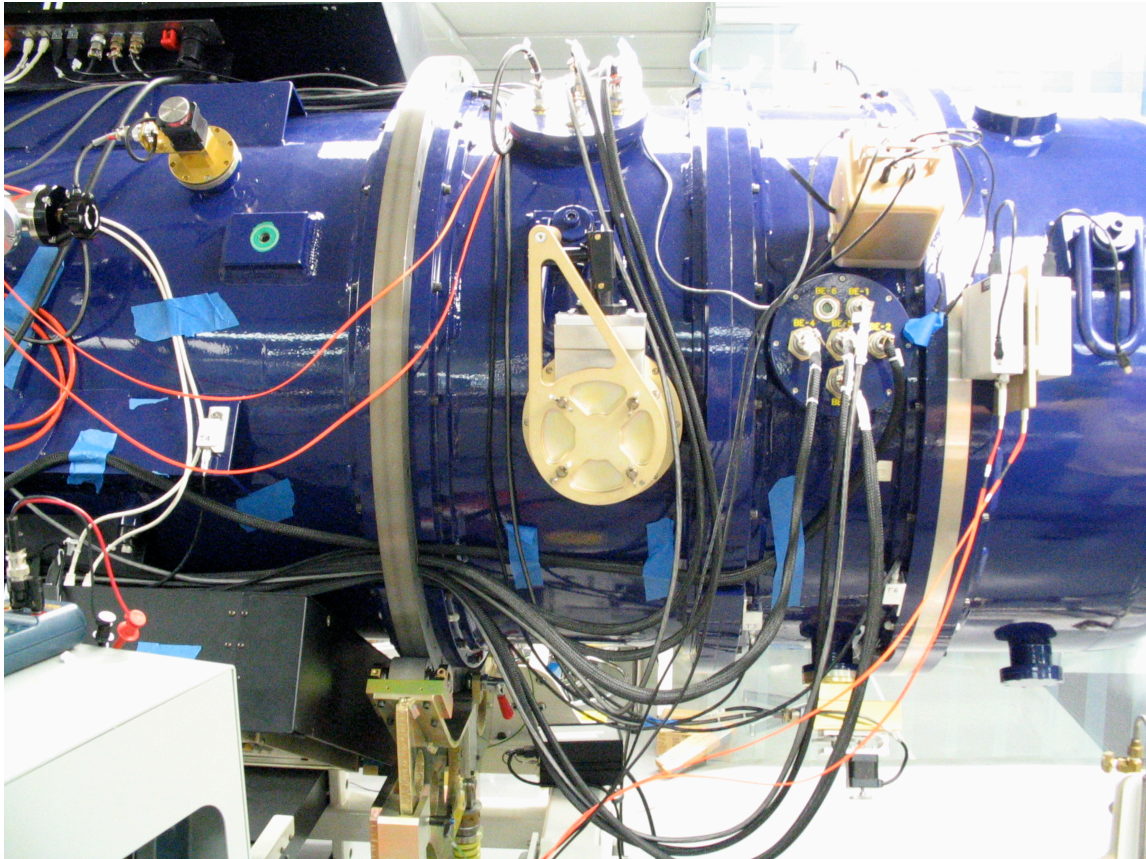

Figure 6.12 The main FourStar Vacuum port with the safety cover in place.
**WARNING: HIGH RISK.** The safety cover should always be over vacuum gate valve; see Figure 6.12. In the rare event it becomes necessary here are the general procedures: